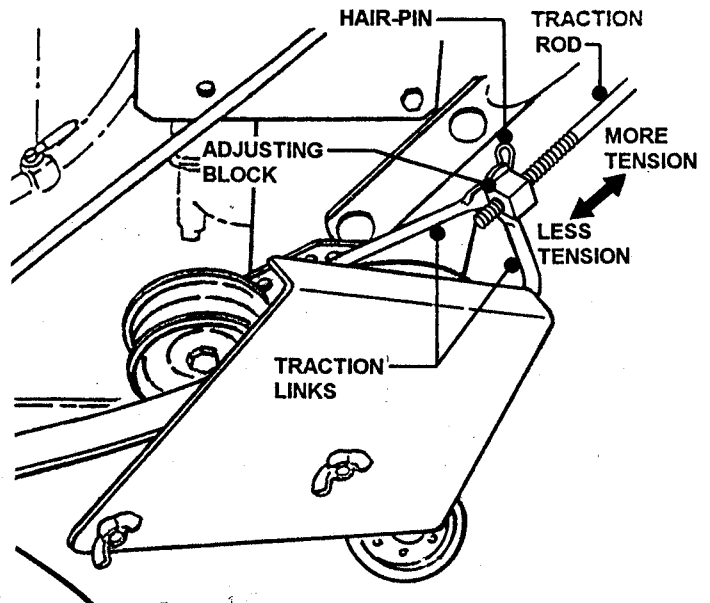

FIGURE 25
4. Remove the hairpins from the traction rod adjustment blocks and remove the adjustment blocks from the traction links on each side of the mower. See Figure 25.